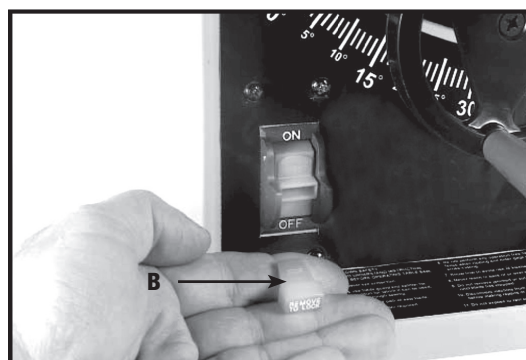

Fig. 28
**IMPORTANT: When the tool is not in use, the switch should be locked in the "OFF" position to prevent unauthorized use.** To lock the tool, grasp the switch toggle (B) and pull it out of the switch (Fig. 28). With the switch toggle (B) removed, the switch will not operate. However, should the switch toggle be removed while the saw is running, the machine can be turned "OFF," but cannot be restarted without re-inserting the switch toggle (B).